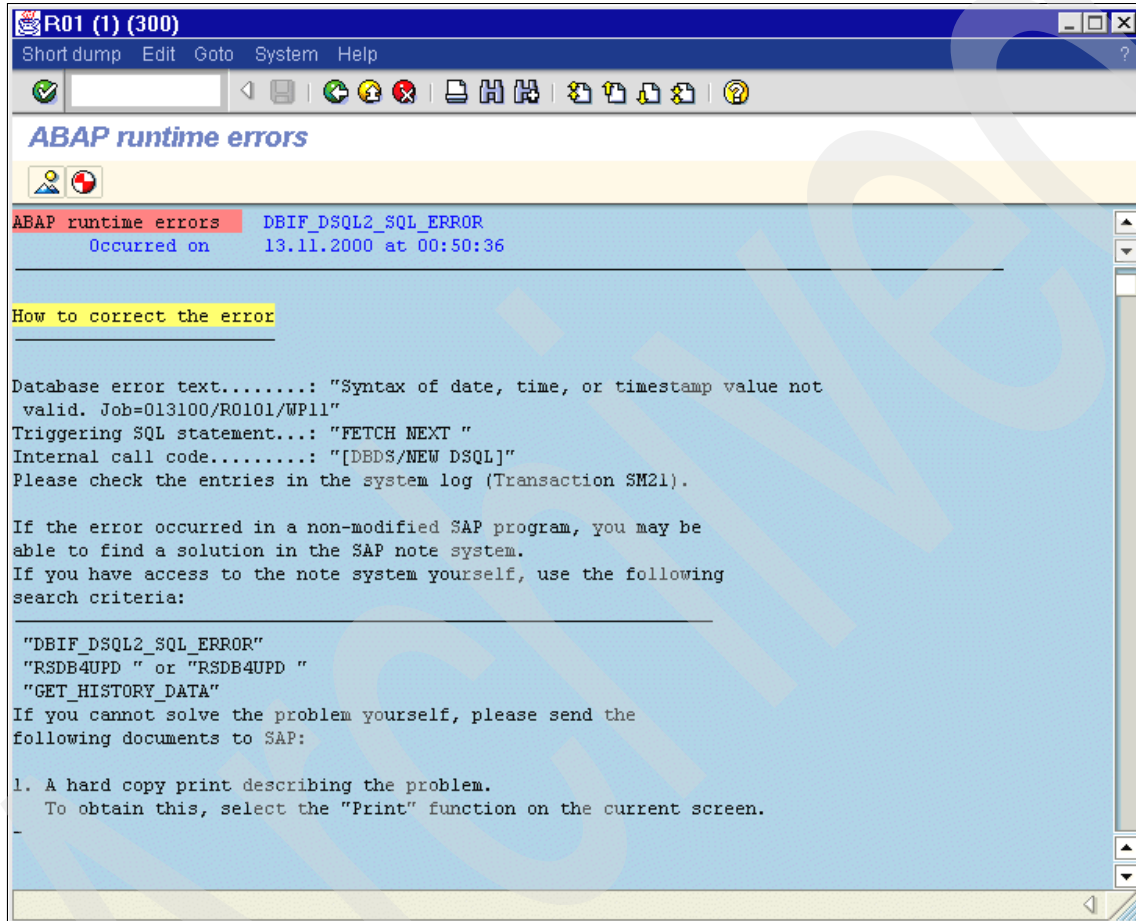

Figure 20-6 Short dump
3. Short dumps: Start to analyze the problem by displaying the short dump. If you do not have a short dump go to the next step. The short dump contains usually some information about the work process and the job on the System i model, like the example shown in Figure 20-6.